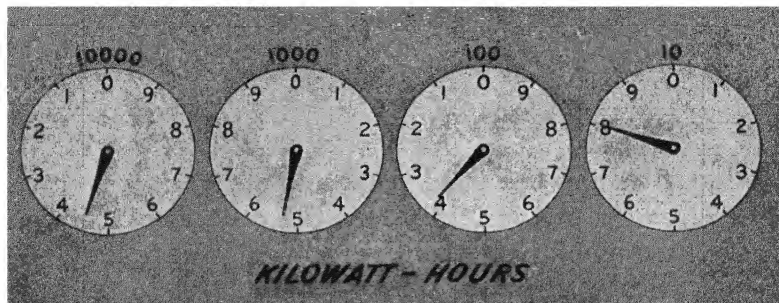
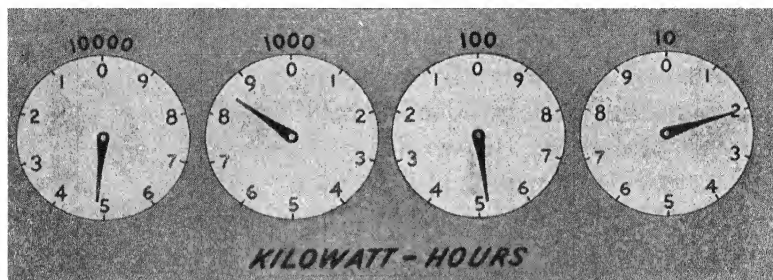

FIG. 407. The reading on these dials is 4538.
FIG. 408. The same dials as above, but a month later. What is the reading? How much electricity was used during the month?
Figure 407 shows the dials of a watt-hour meter. The pointer on the dial at the right makes one complete revolution while ten kilowatt hours of energy are being used. The dial second from the right makes one revolution for each 100; the third, one revolution for each 1000; and the fourth, one revolution for each 10,000. Therefore the reading is made by looking at the last figure passed by each pointer and by writing them down in the same order as the dials. Now answer the questions that are asked under Figure 408.
4. At the rates charged in your community, what should be the amount of the bill when two monthly readings were those shown in Figures 407 and 408?